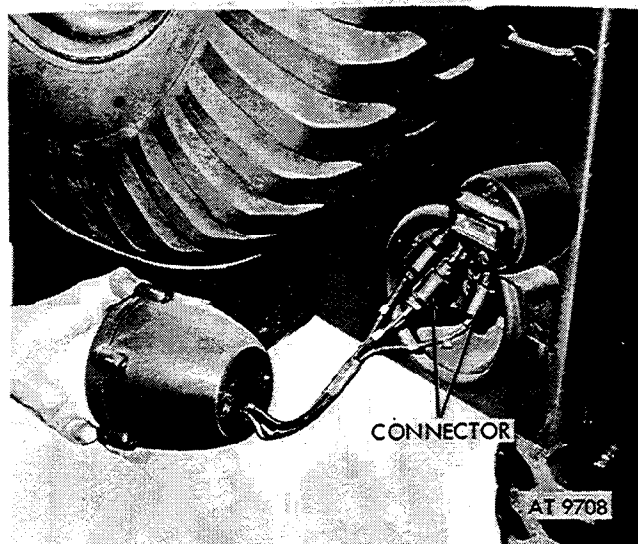

Figure 2-259. Disconnect connectors at right taillight.
(11) Remove cable from clip and disconnect the connectors at right taillight (fig. 2-259) (M151, M151A1, M151A1C and M718 vehicles). Remove cable from clip. Remove cover plate as described in (10) above, and disconnect four connectors at rear left composite light assembly (M151A2, M825, and M718A1 vehicles).